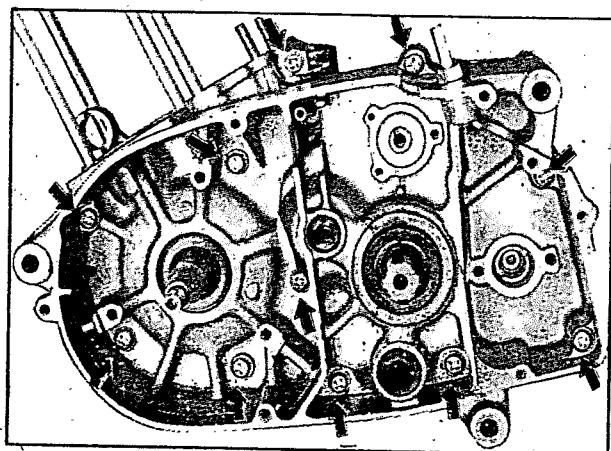

Fig 3.38
- Loosen the crankcase securing screws (11 nos) (fig 3.38)